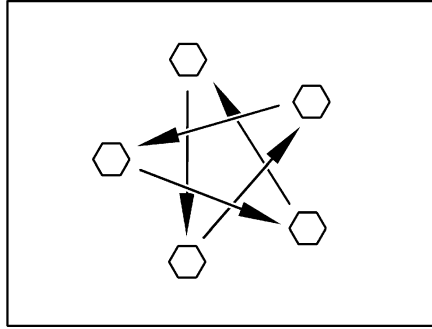

Fig. 374 Tighten the wheel nuts or wheel bolts cross-wise
- Check regularly that the wheel nuts or wheel bolts are firmly seated. Re-tighten the wheel nuts or wheel bolts of a changed wheel cross-wise (Fig. 374) after 50 km (30 miles).
- ▷ Tighten the wheel nuts or wheel bolts cross-wise (Fig. 374).